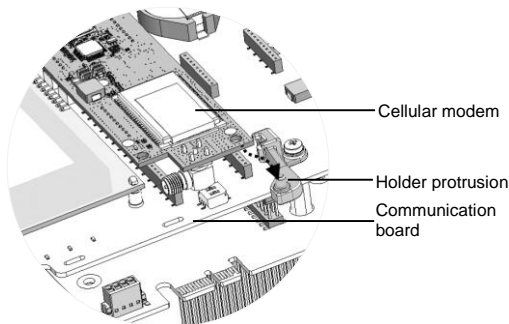

Figure 9: Installing the cellular modem on the holder
- 3 Locate the cellular modem in its place on the communication board, as shown in Figure 9. Follow these guidelines: